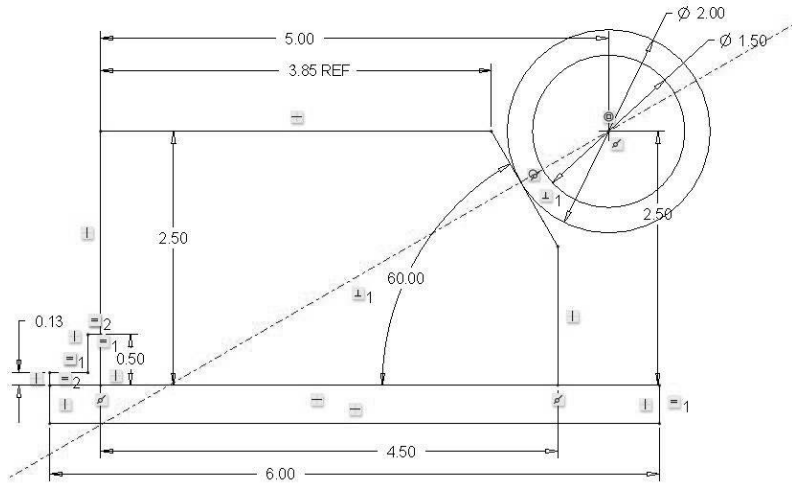

Figure 3-65 Line of Action for Pipe Force
Step 30:  Select the **centerline** tool. Using the LMB pick the center of the pipe, then the point where the line touches the jig's slanted surface. The normal force produced by the pipe pushing on the slanted surface will lie along this line. If this line crosses the left edge of the jig above the fixed tab, then the jig will not stay in place by itself. In this case, this line crosses below the fixed tab, thus this jig will stay in place when released. See Figure 3-65.